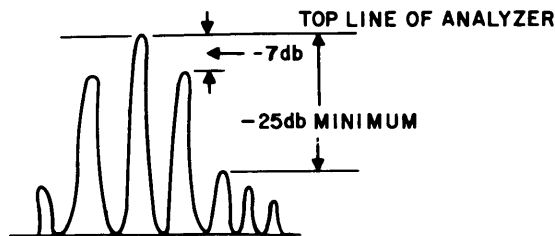

Figure 5-17. Carrier Double-Sideband Modulation Waveform
- (12) Set METER switch to USB position and adjust USB MIKE/LINE control for 4/5 full scale indication on meter.
- (13) Adjust RF OUTPUT control for 3.5 VRMS out on VTVM connected across 50 ohm dummy load. Two rf tones should be displayed on the spectrum analyzer. Distortion products should be down -40 DB from the displayed two-tone signals.
- (14) Rotate USB-MIKE/LINE control to "0".
- (15) Set METER switch to LSB position and adjust LSB-MIKE/GAIN control for 4/5 full scale indication on meter.
- (16) Observe that distortion products are down at least -40 DB from the two tones displayed on the spectrum analyzer.
- (17) Rotate LSB-MIKE/LINE control to "0".
- (18) Adjust the output of the two tone generator for one tone out at a level of 78 millivolts RMS.
- (19) Adjust the LSB-MIKE/LINE control for a 4/5 full scale indication on meter.
- (20) Set MODE switch to AM position.
- (21) Observe that VTVM across output indicates 3.5 VRMS.
- (22) Observe that the distortion products on the spectrum analyzer are down -25 DB or lower from the carrier spike and the upper and lower sideband tones are down approximately -7 DB from the carrier as shown in figure 5-17.